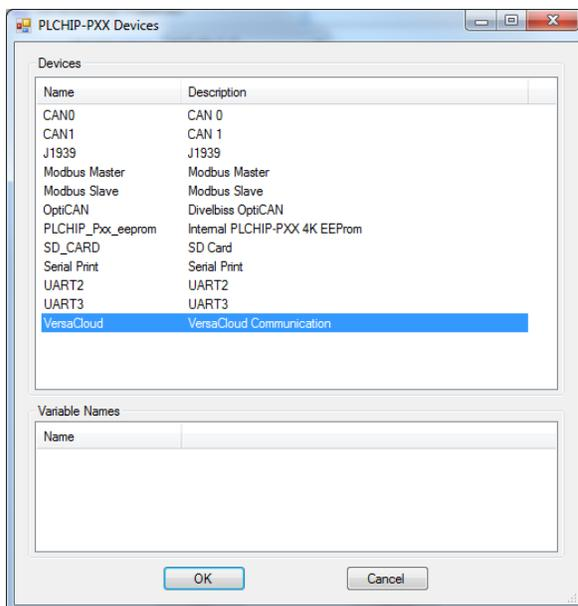

Figure 2-41 - PLCHIP-PXX Devices - VersaCloud
3. Click the **ADD DEVICE** button. The **PLCHIP-PXX Devices** window will open. Locate the **VersaCloud** in the Devices pane of this window. Click / select **VersaCloud** (highlight). Refer to Figure 2-41.